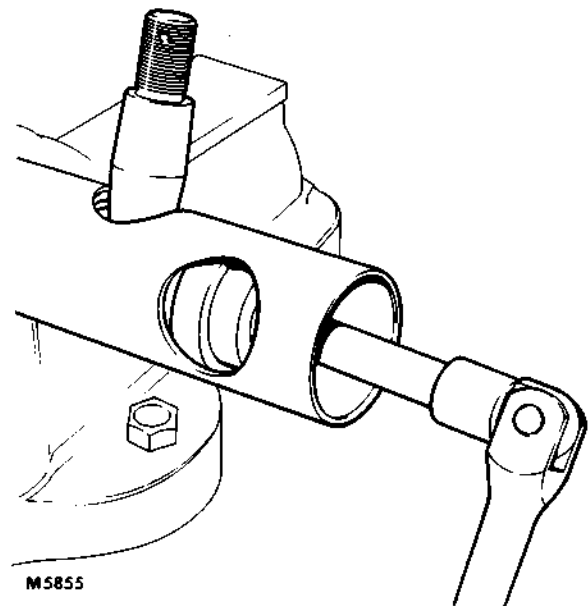

FIG. 8. TIGHTENING INNER BALL CUP HOLDER USING SPECIAL TOOL
11. Remove tool HY 22, fit backing washer (44) and screw in lock ring (43) into outer tube a few threads only.
12. Apply a liberal coat of Shell Alvania No. 3 grade grease to spherical surface of input ball pin (8) and assemble through the holes in the outer tube and sleeves, ensuring that the limit peg of the ball pin is correctly located in the two elongated slots provided.
13. Screw home ball cup holder (4) to its limit, using tool HY 10, (Fig. 8), then back-off to produce a ball pin articulating torque of 0.86 to 1.38 kgf m (6.2 to 10.0 lbf ft); this is achieved by screwing back ball cup holder approximately one-sixth of a turn. Line up slot in ball cup holder to the nearest hole in the operating sleeve (61) and secure with spring clip (2).
14. Fit lock ring (1); tighten lock ring (43) to a torque of 19.3 kgf m (140 lbf ft) using tool HY 28. Tighten lock ring (1) to a torque of 13.8 kgf m (100 lbf ft), again using tool HY 28. With both lock rings secured and the inner assembly centralized longitudinally and radially in relation to the outer tube, the body centralizing device HY 17 must screw in and out freely. Rectify as necessary if this condition is not apparent. Remove tool HY 17.
15. Screw anchor ball joint housing (34) on piston rod (26).
16. Refit backing washer (12), Belleville washers (40), inner ball cup (39); grease spherical surface of anchor ball pin (38) with Shell Alvania No. 3 grade grease and locate in housing (34).
17. Refit outer ball cup (3) and ball cup holder (35); screw in ball cup holder to its limit, then back off approximately one-eighth of a turn; align hole in ball joint housing with slot(s) of ball cup holder and secure with split pin (30).